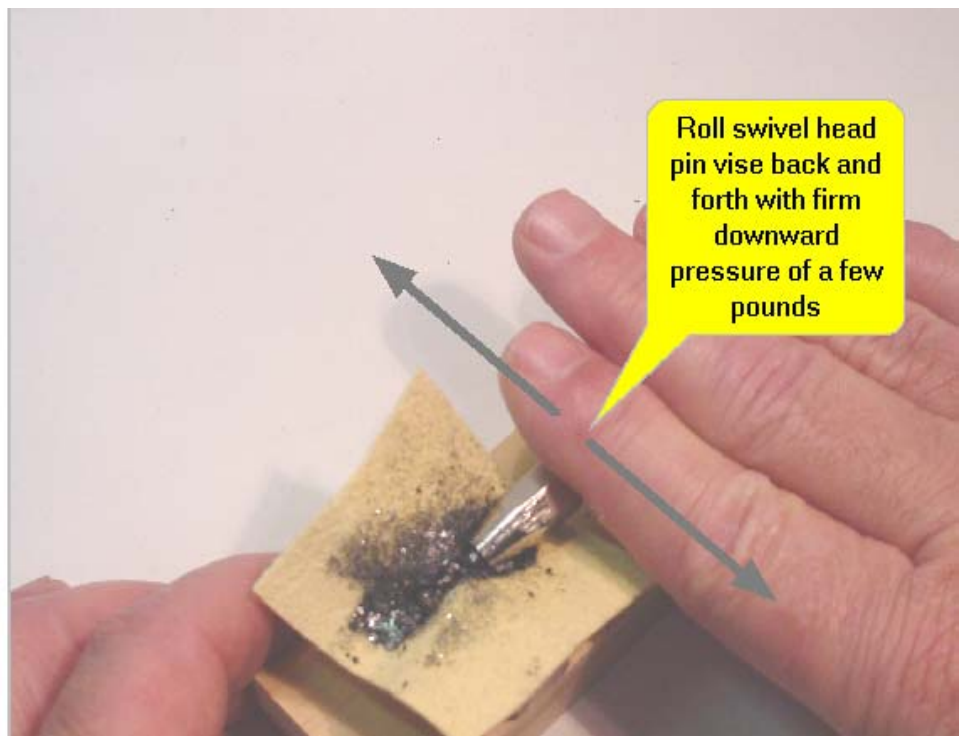

Figure 14 - Rub Super Z graphite on the axle.
- Then lay the fingers of the right hand on top of the swivel head pin vise and roll briskly back and forth while pressing down as in **Fig. 14**.